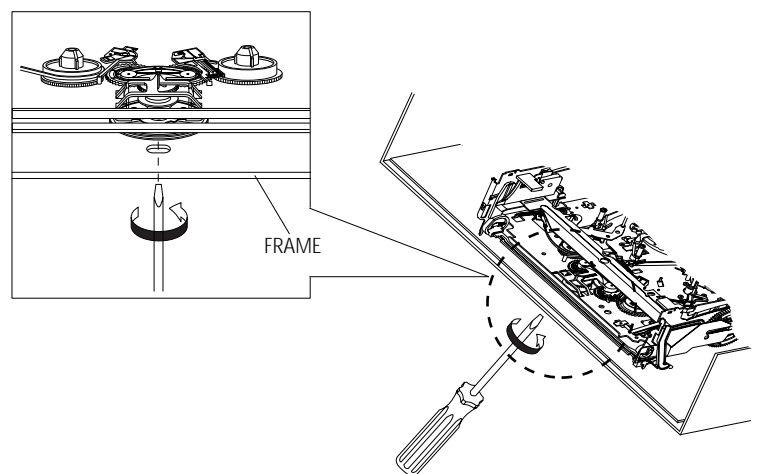

Fig. 3
- 2) When Slider S, T are approach the unloading position, rotate holder Clutch counterclockwise after inserting screwdriver in the frame's bottom hole in order to wind the unwound tape. (Refer to Fig. 3)